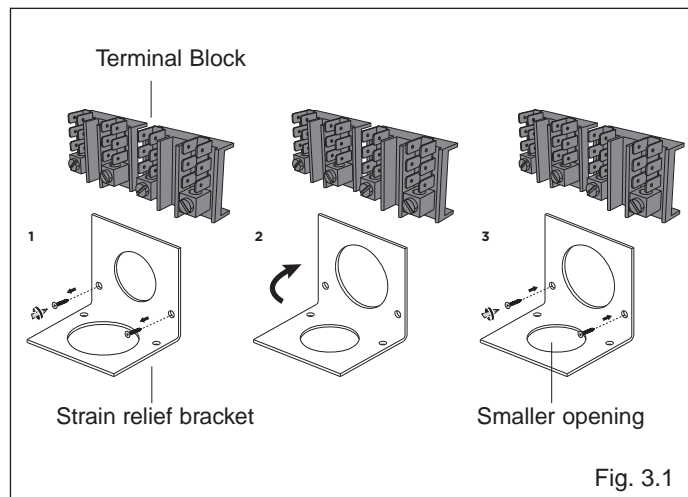

Fig. 3.1
- The strain relief bracket orientation must be so that the 7/8" (22mm) smaller opening is facing down (fig. 3.1). If not, the strain relief bracket orientation must be switched in order to accommodate for a permanent wiring connection: